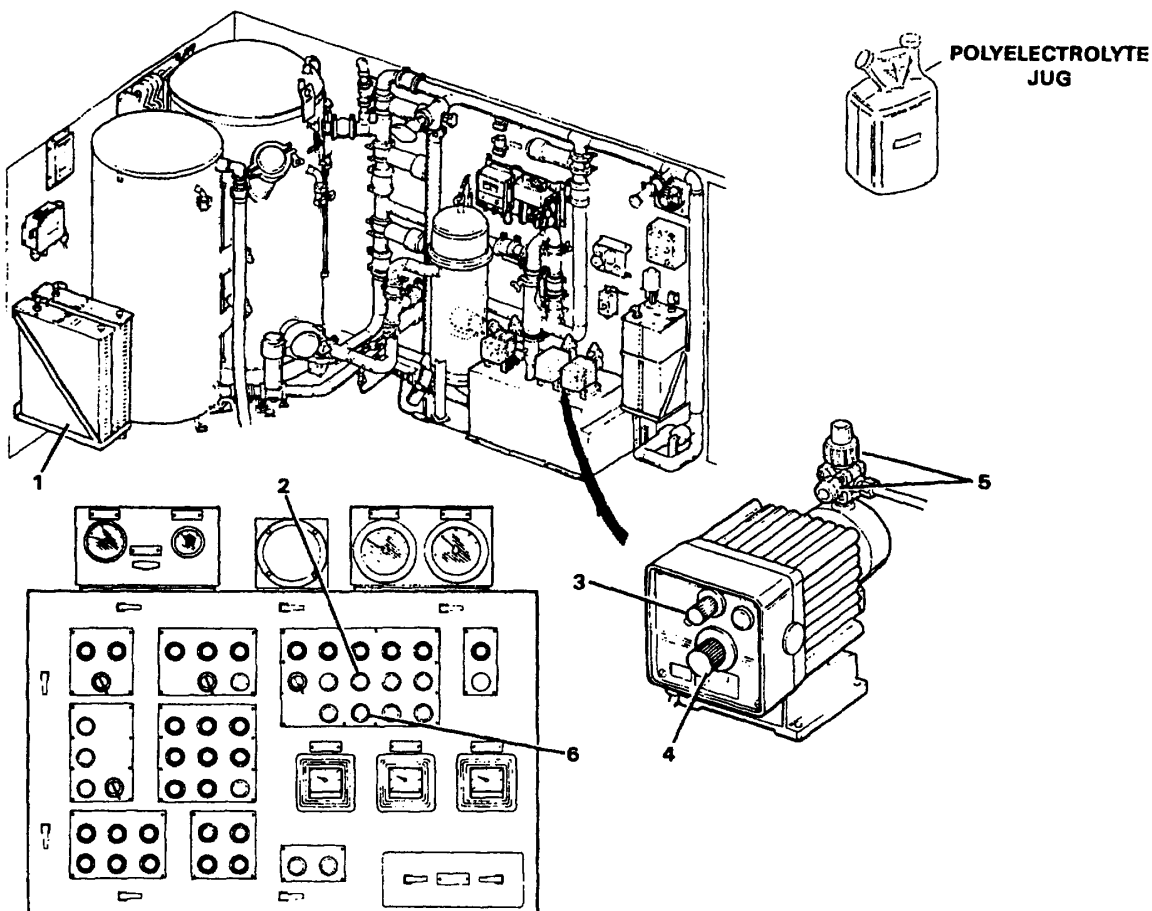

Figure 2-40. Initial Polyelectrolyte Set-Up
a. *Initial Polyelectrolyte Set-Up (Figure 2-40).*
Make sure the speed controls on all three chemical injection pumps are in the OFF position (speed controls for all three pumps are the same as item 3, Figure 2-40).